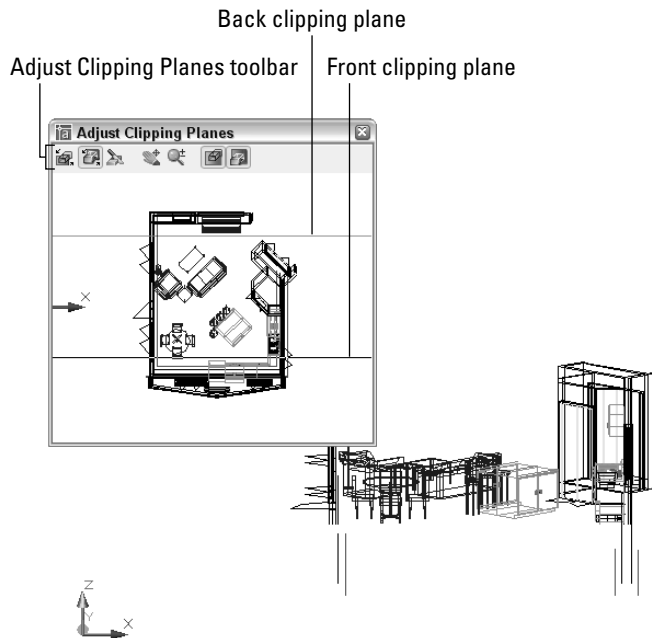
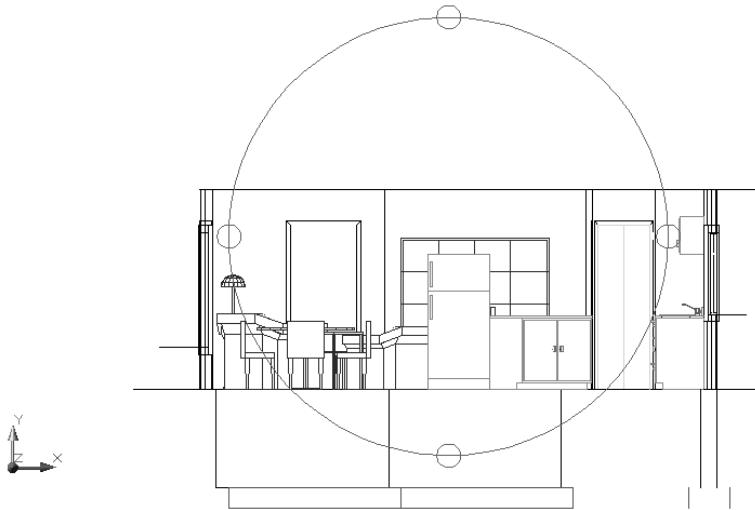

Figure 22-27: The Adjust Clipping Planes window, shown with the model on the drawing area.
Figure 22-28: A house after setting clipping planes and using the Hide shading option.
1. From 3D orbit, right-click and choose More ⇄ Adjust Clipping Planes. AutoCAD displays the Adjust Clipping Planes window, shown in Figure 22-27.
Figure 22-28 shows how the house shown in Figure 22-27 looks after setting clipping planes and changing the rotation slightly. The front and back walls have been clipped off.